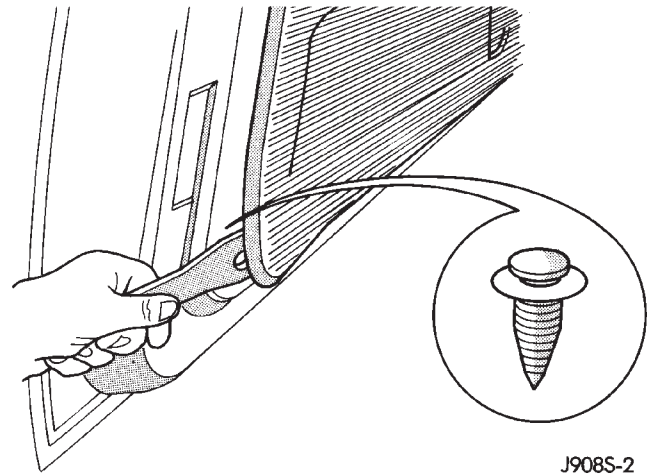

Fig. 7 Trim Panel Remove
- (6) Pull armrest straight out from trim panel.
- (7) Remove trim panel with a wide flat-bladed tool (Fig. 7).